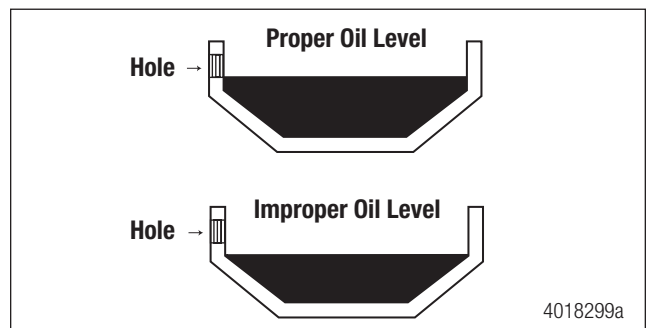
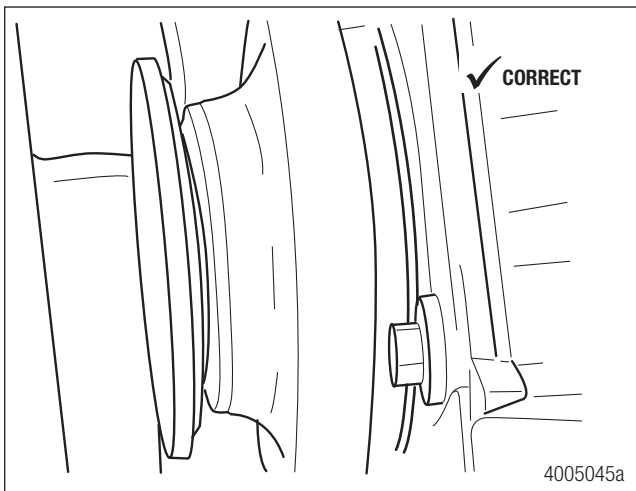
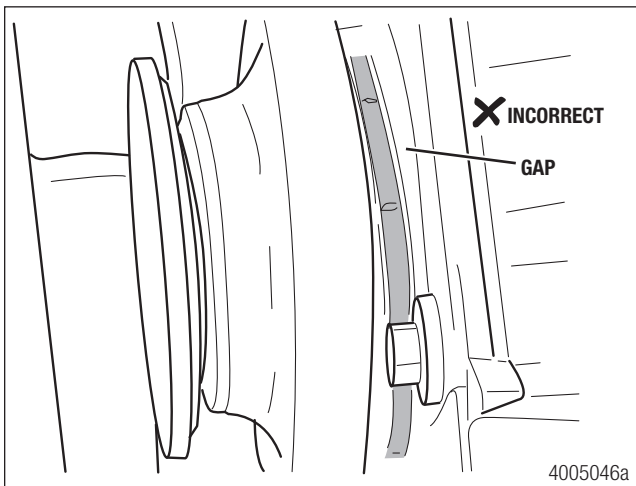
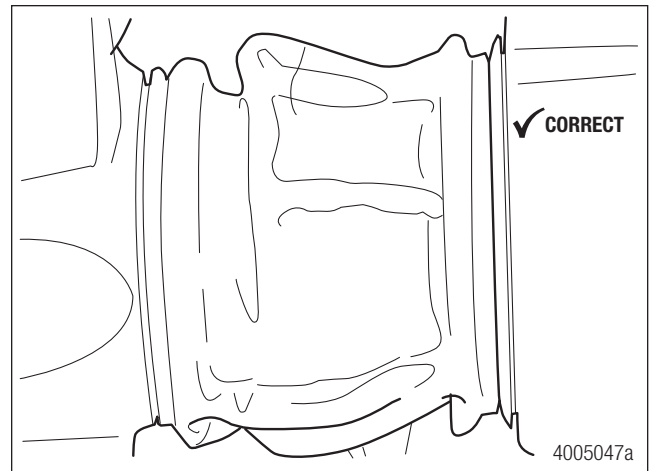

Figure 4.6
Figure 4.15
Figure 4.16
Figure 4.17
Verify the lubricant is even with the bottom of the oil fill plug hole and not below the fill plug hole. If necessary, add the specified lubricant, until it is even with the bottom of the fill plug hole. Refer to Figure 4.17 on page 15 for detailed check and fill procedures. Figure 4.6.
- With the pads removed, visually inspect the caliper slide pin boots and piston boots. All slide pin and piston boots should be free from damage and should be correctly seated. Figure 4.15, Figure 4.16, and Figure 4.17.